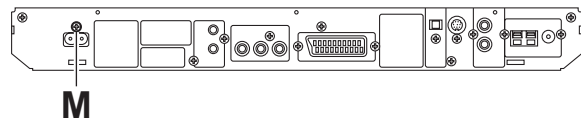

Fig.9
- (2) From the top side of the main body, disconnect the card wire from the connector CN410 on the main board. (See Fig.9)
- (3) Take out the tuner from the main body.
### 3.1.6 Removing the DVD mechanism assembly (See Fig.9)